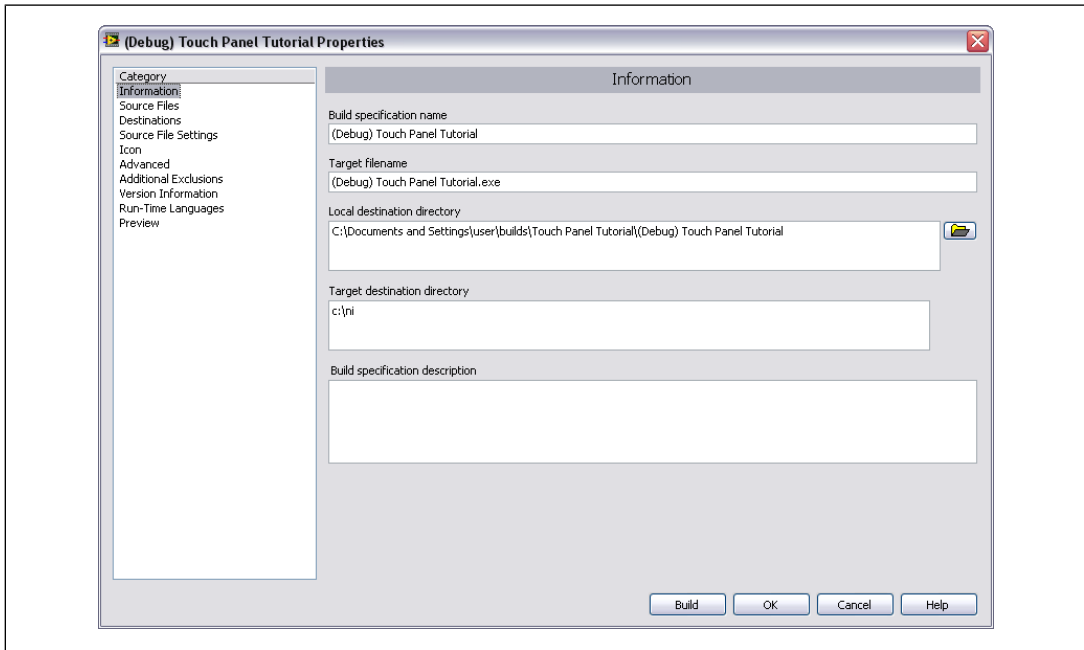

Figure 18. Creating the Debugging Build Specification
3. Enter (Debug) Touch Panel Tutorial.exe in the **Target filename** text box, as shown in Figure 18.